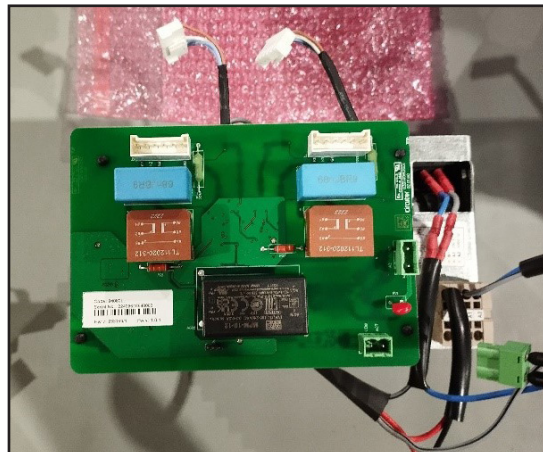

Figure 2: Step 2.
- 2.- Install the PCB on the rods, **Figure 2**.